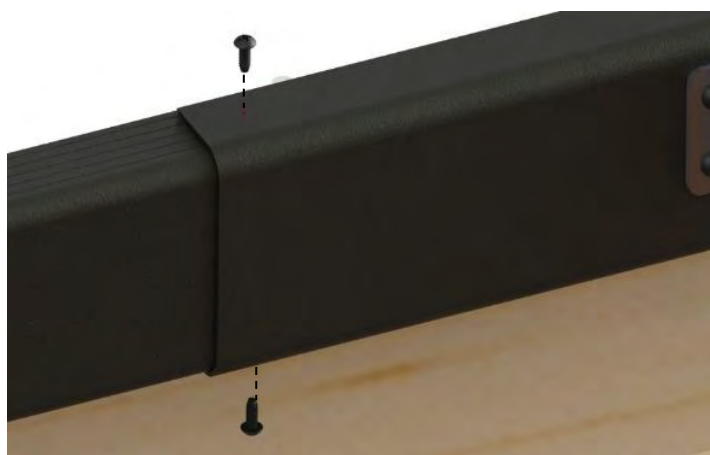

Figure 81
40) Screw in the painted Phillips 10-24 x 1/2 in. thread cutting screws at the bottom and top of the support bracket (four screws per bracket) (Figure 81).